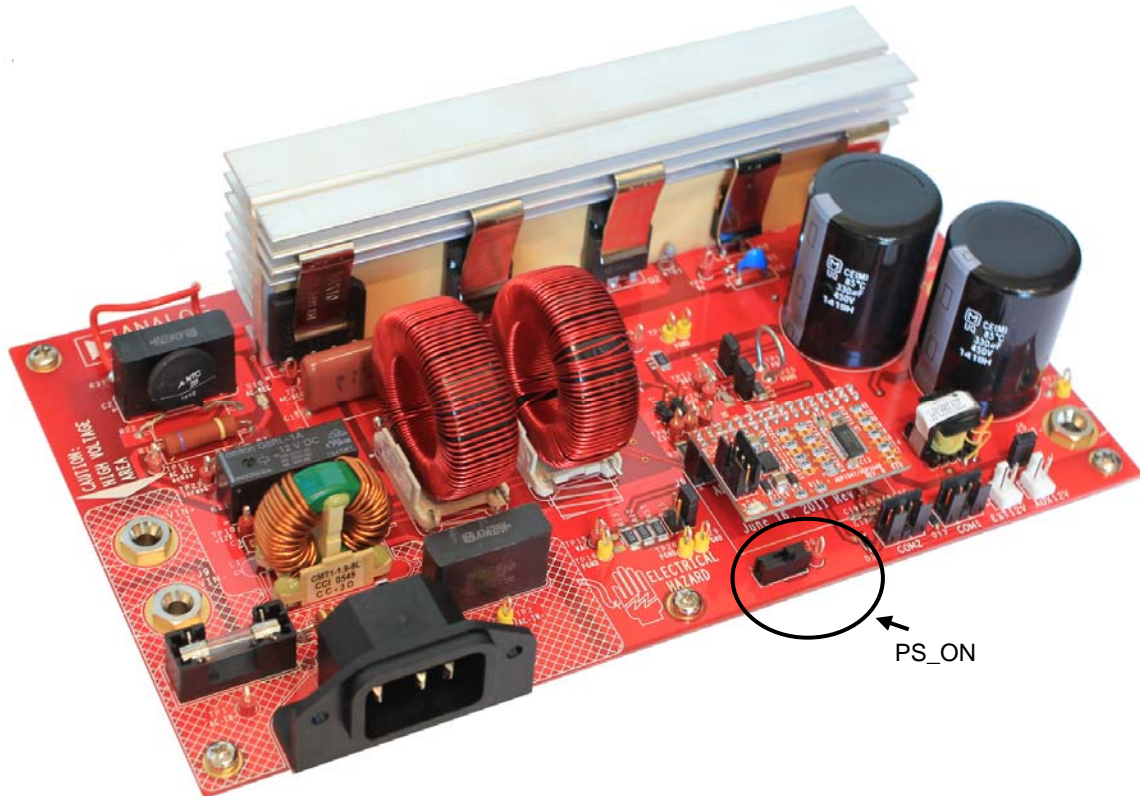

Figure 4 - 600W evaluation board showing PS_ON hardware switch
- 2) Insert the daughter card in connector J6 as shown in Figure 4.
- 3) Ensure that the PS_ON switch (SW1 on schematic) is turned to the on position. It is located on the bottom left half of the board (Figure 4).